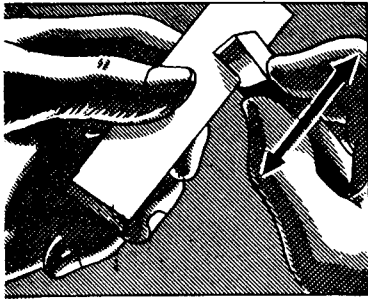

FIG. 575
1. Hold the sharpening or abrasive stone in one hand and rub the tool from side to side until the cutting edge on the face of the tool is smooth (Fig. 575), or hold the tool in the hand and rub the stone over the tool (Fig. 576).